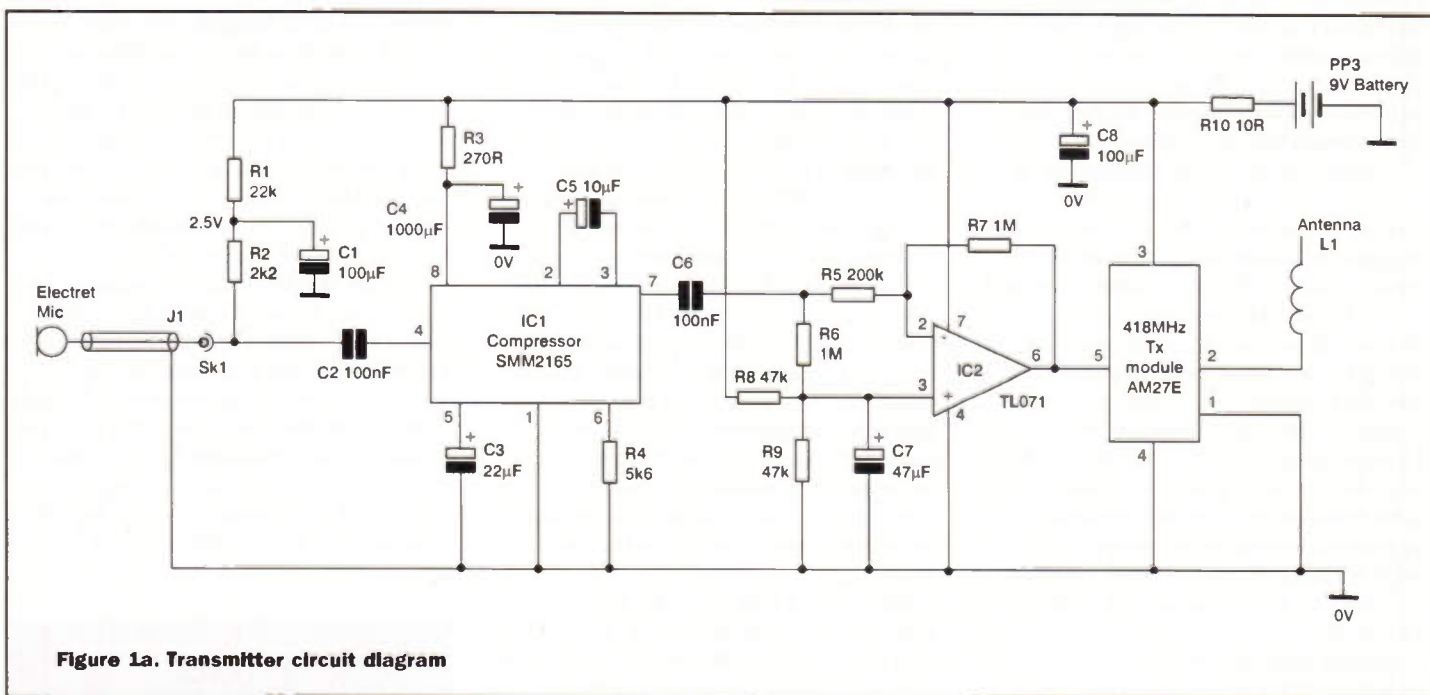

Figure 1a. Transmitter circuit diagram
The circuit is shown in Figure 1a. A miniature electret microphone is used as the transducer. The lead from the microphone plugs into a 3.5mm socket, SK1, on the transmitter PCB, and DC power is supplied to the microphone from R1 and R2. The audio signal is fed via C2 to the input of IC1, a SSM 2165. This IC is a microphone pre-amplifier with adjustable compression and noise gating. The compression ratio is set by the value of R4 which was set at 5k Ω to give a compression ratio of about 2, which was found to be suitable for this application. The ratio can be varied from 1:1 to 15:1 by changing the value of R4. With input levels above a certain value the output is limited to a maximum of about 300mV rms. Note that this limiting action does not 'clip' the signal but steadily reduces the gain of the voltage-controlled amplifier, which forms part of IC1. The output of IC1 is therefore always a faithful reproduction of the input with little distortion.
6. Check the DC voltages in the transmitter circuit are as shown in the circuit diagram, Figure 1a.